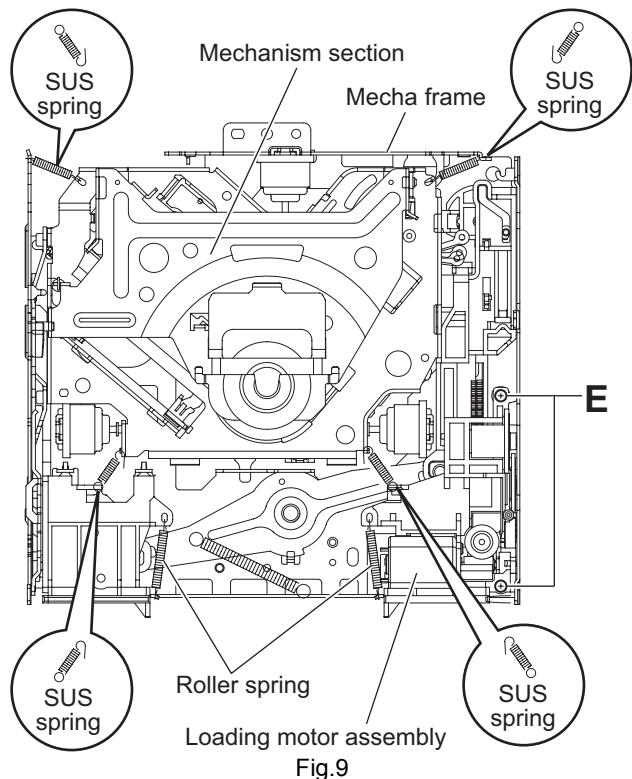

Fig.9
3.2.5 Removing the mechanism section (See Fig.9 and 10)
- (1) From the top side of the CD MECHANISM assembly, remove the two screws **E** attaching the loading motor assembly. (See Fig.9.)
- (2) Remove the two roller springs on the top side of the mecha frame. (See Fig.9.)
- (3) Remove the four SUS springs on the top side of the mecha frame. (See Fig.9.)